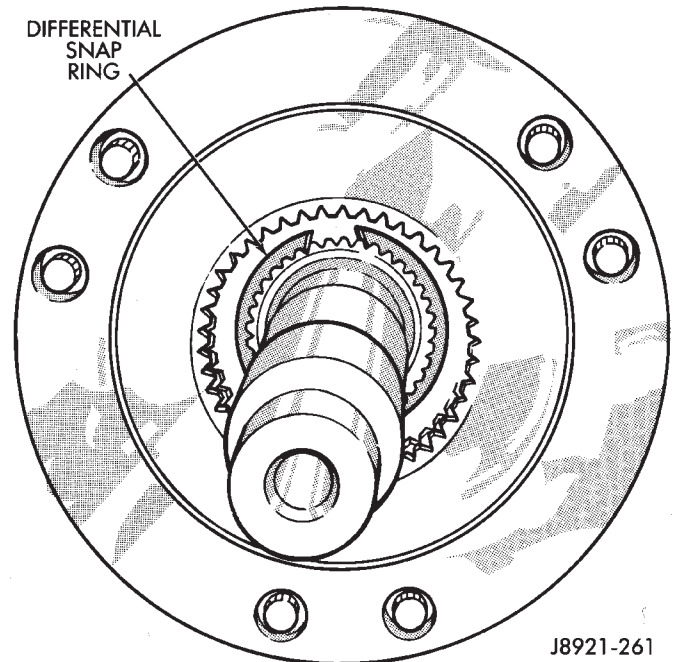

Fig. 21 Differential Snap Ring Removal
(32) Remove differential snap ring (Fig. 21).